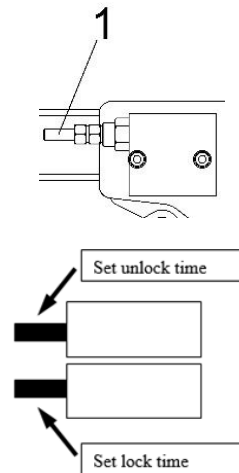

Figure 10: Setting the locking time
- The pressure setting for controlling the cylinder D is preset. If additional settings are required, loosen the two plugs 1 (Figure 10, 12) and adjust the pressure by tightening or loosening the screw, which also adjusts the locking time (Figure 11).